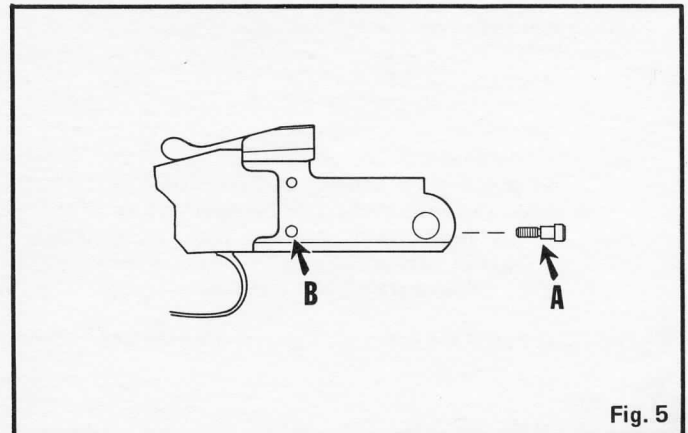

Fig. 5
Should it be necessary to disassemble bottom tang from frame, unscrew the two (2) small bottom tang screws located inside the frame (A) DO NOT attempt to remove the pins from sides of frame (B). (See Fig. 5).
as far as possible, rotate bent ends outward and pull rearward out of frame. Unscrew bottom tang screws (Fig. 5). Drive out sear pin. Remove sears, sear spring plungers and springs. Hold selector block rearward, grasp bottom tang assembly and carefully pull rearward out of frame.